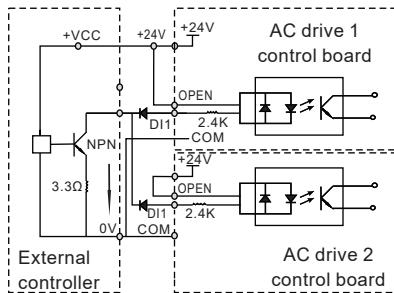

Figure 3-22 DI terminals connected in parallel in SINK mode
- + In this In such wiring mode, the DI terminals of different AC drives cannot be connected in parallel. Otherwise, DI mal-function may result. If parallel connection (different AC drives) is required, connect a diode in series at the DI and the diode needs to satisfy the requirement: IF>10mA, UF <1 V.As shown in Figure 3-22.